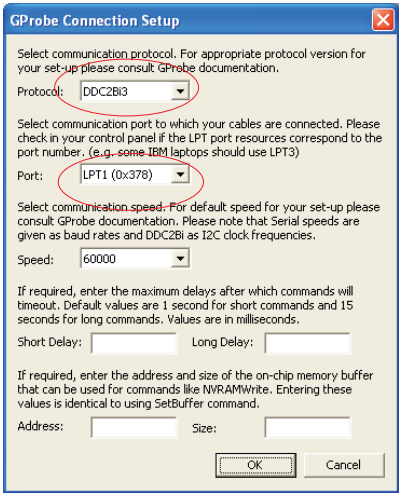

Fig.8
- 5. From the menu that appears , choose the DDC2Bi3 in "protocol" and the LPT (0x378) in "port" as shown in Fig.8